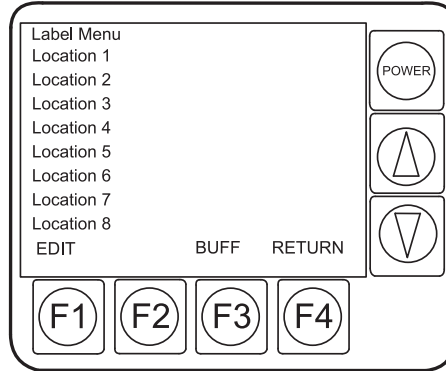

Figure 17 Location menu screen
1. Press **F4** on the Main screen to display the Label Menu screen (refer to Figure 17).
1. Press **F3** (Buff) on the Location menu screen (refer to Figure 17 on page 28). The Buffer Review screen is displayed.